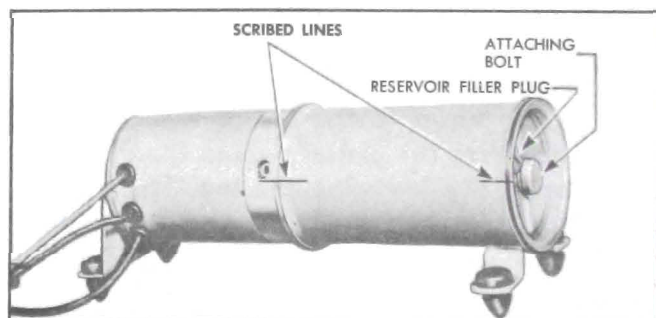

Figure 13-117—Motor and Pump Assembly
2. SCRIBE A LINE across the pump end plate, reservoir tube and reservoir tube end plate as shown in figure 13-117 to insure correct assembly of parts.